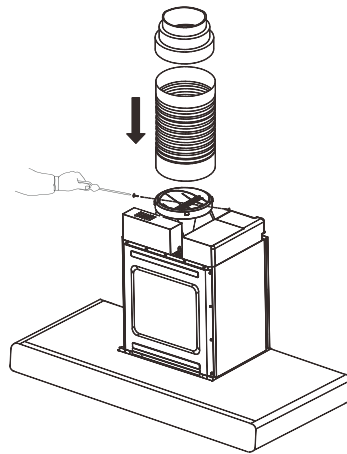

Fig.9
5. Ducted mode air exhaust system(Fig.9).